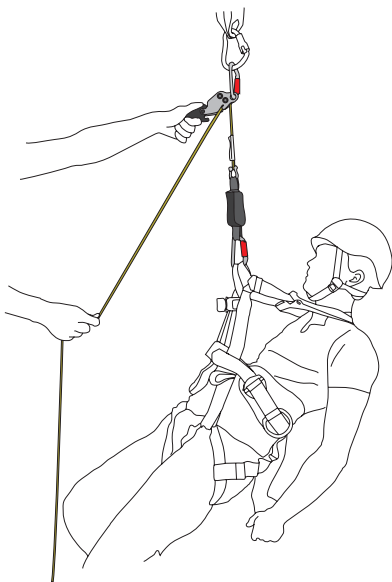

Fig. 4
4. Detach the karabiner from the anchor sling. Place the anchor sling around a structure and into its karabiner as shown in fig. 1A or fig. 1B. The anchor must be able to support a load of 12 kN (EN795). Attach the **Smartline X** as shown in fig.4.